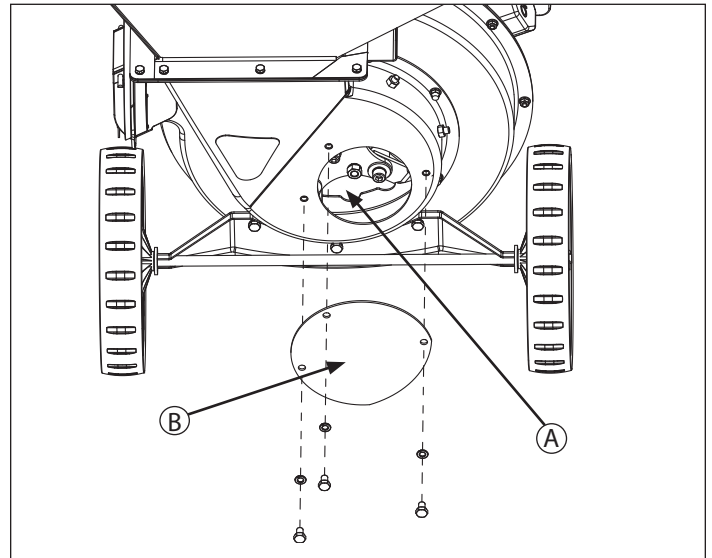

FIGURE 9- Inspect / Rotate Shredding Hammers
2. Remove the small circular access panel (B) from the back of the shredder housing. SEE FIGURE 9
3. Inspect the cutting edges of the triangular hammers (A) and J-hammers (A). SEE FIGURES 9 AND 10